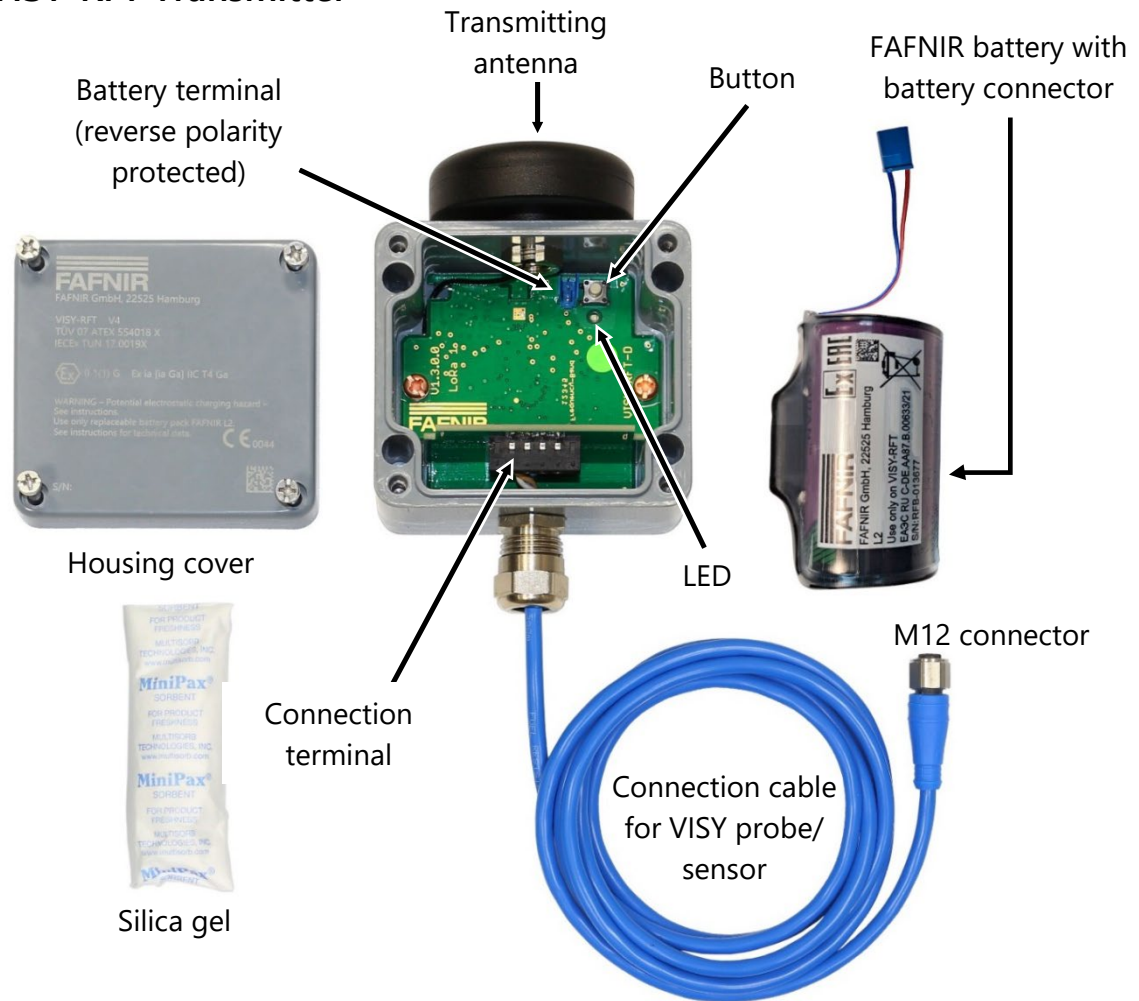

Figure 3: VISY-RFT transmitter with cover removed
- ... with riser (pipe installation), a cable gland must be present in the pipe cover. The transmitter's connection cable can be removed from the terminal (see Figure 3), inserted through the cable opening in the pipe cover and subsequently reconnected.